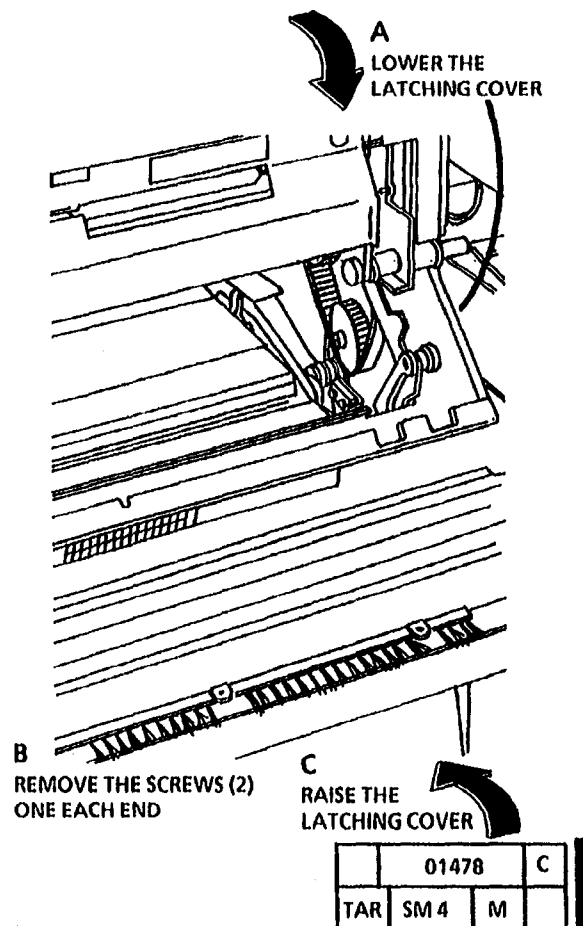

Figure 1. Disconnect the Media Transport
2. (Figure 1): Disconnect the Media Transport from the Latching Cover.